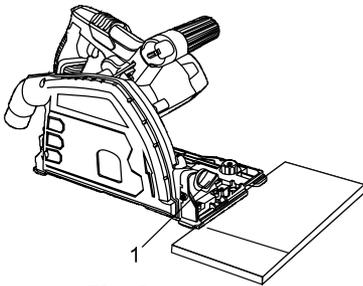
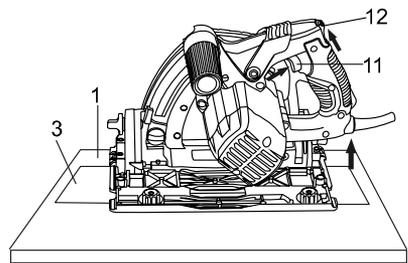
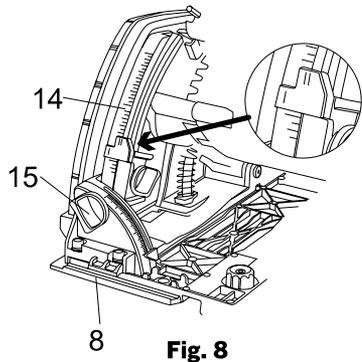

Fig. 6
Fig. 7
Fig. 8
2. Set the saw on the workpiece (1) so the base plate is flat on the workpiece (Fig. 6).
3. Align the saw blade with the cutting line (3).
4. Press the plunge release (12) and switch trigger (11) to start the saw and slowly lower the blade onto the workpiece to allow the blade to cut into the workpiece (Fig. 7). Allow the blade to cut through the wood.
Alter the depth of the cut by loosening the Depth Locking Knob (15), (Fig.8). The Base Plate (8) is now free to adjust to the required depth when the Plunge Release (12) is pressed. (Fig.7)
Adjust the Base Plate to the required depth using the Depth Scale (14) or a ruler and retighten the Depth Locking Knob at the base so it cannot exceed that depth. (Fig.8)